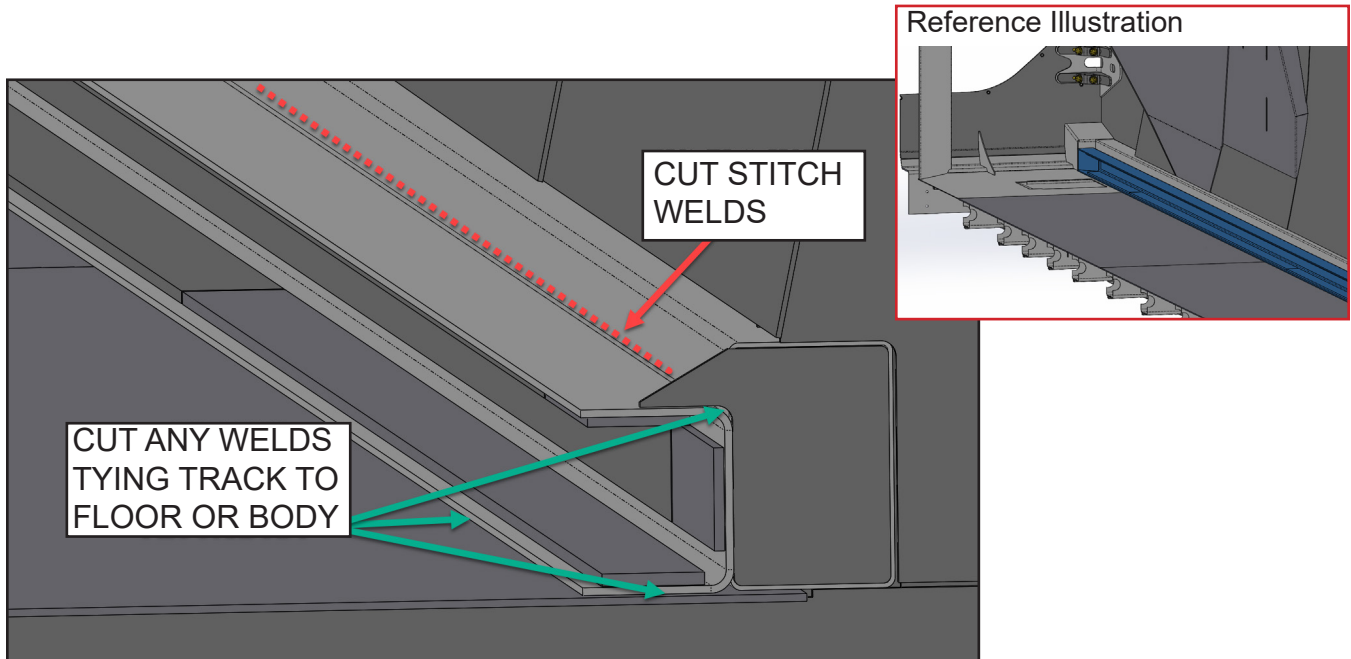
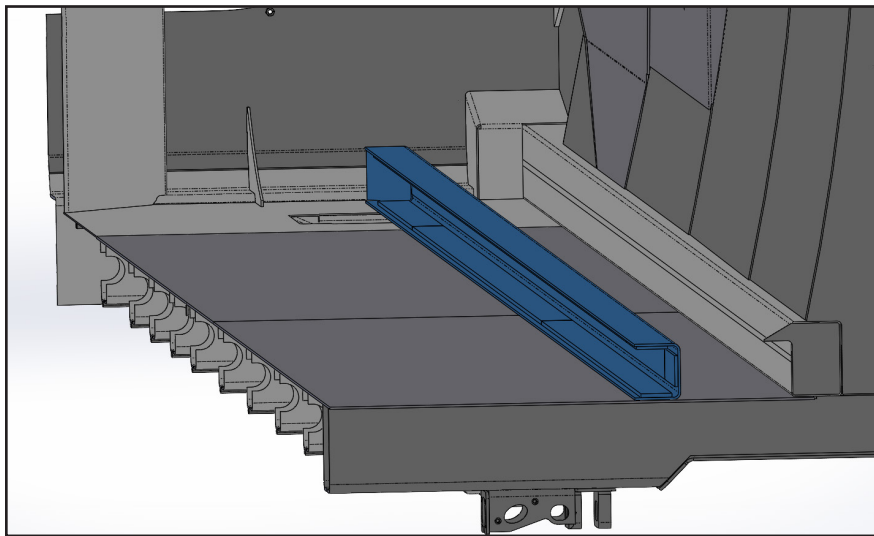

Figure 3
Figure 4
4. Grind any welds holding the ejector track to the body (Figure 3). The ejector tracks are welded to the floor and stitch welded to the longitudinal directly behind them. Remove and discard the old track (Figure 4).